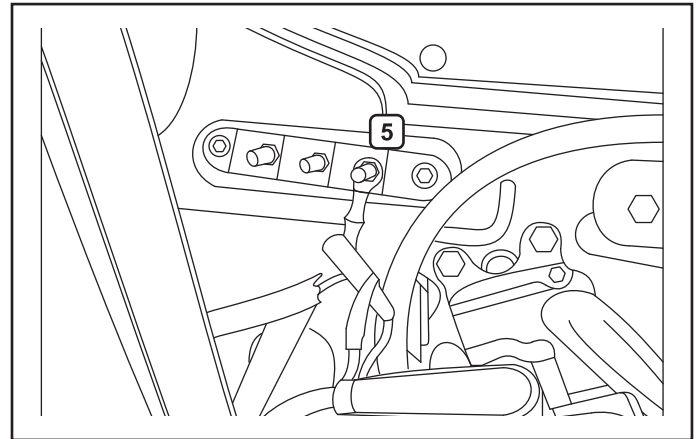

Figure 6.
Accessory Power for Switches or Other Controls: is under the hood, attach to post (5) with included terminal (M). See figure 6.